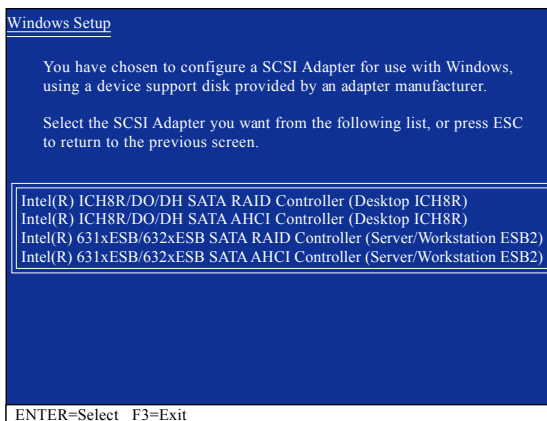

Figure 16
Use the ARROW keys on your keyboard to select **Intel(R) ICH8R/DO/DH SATA RAID Controller (Desktop ICH8R)** ^(Note) (Figure 16) and press ENTER. Then the system will load the SATA driver from the floppy disk.